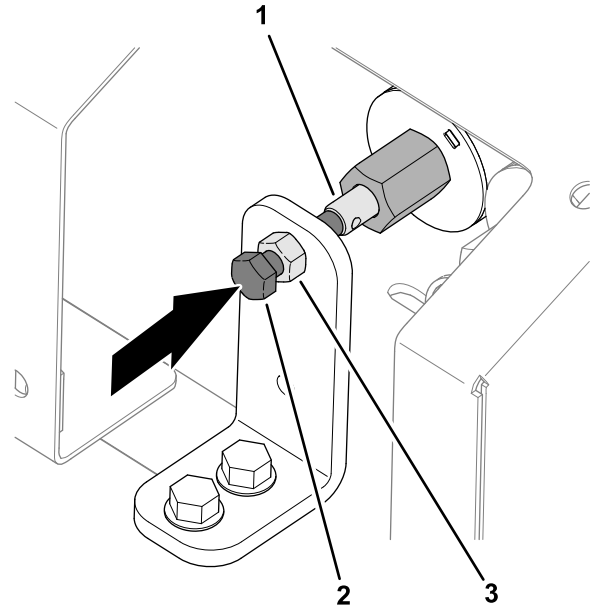

Figure 30
1. Loosen the jam nut at the manual-override bracket (Figure 30).
2. Rotate the hex-head screw for the valve override clockwise to increase the floor speed (Figure 30).